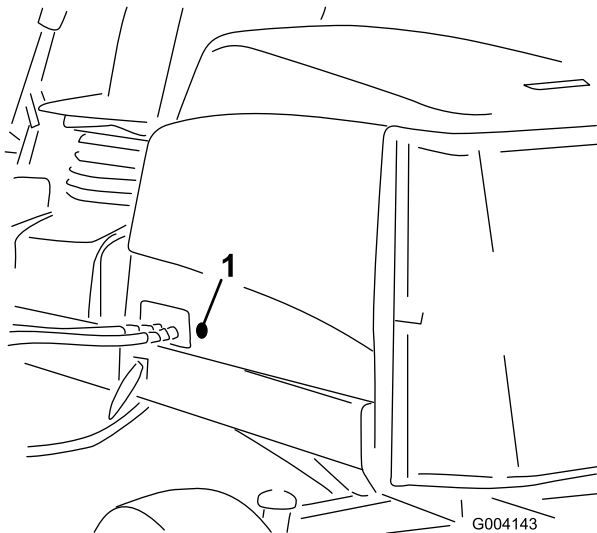

Figure 18
2. Remove the rubber grommet from the hole in the left side of the hood (Figure 18).